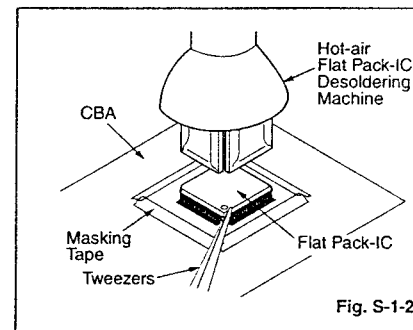

Fig. S-1-2
- Do not apply the hot air to the chip parts around the Flat Pack-IC for over 6 seconds as damage may occur to the chip parts. Put Masking Tape around the Flat Pack-IC to protect other parts from damage. (Fig. S-1-2)